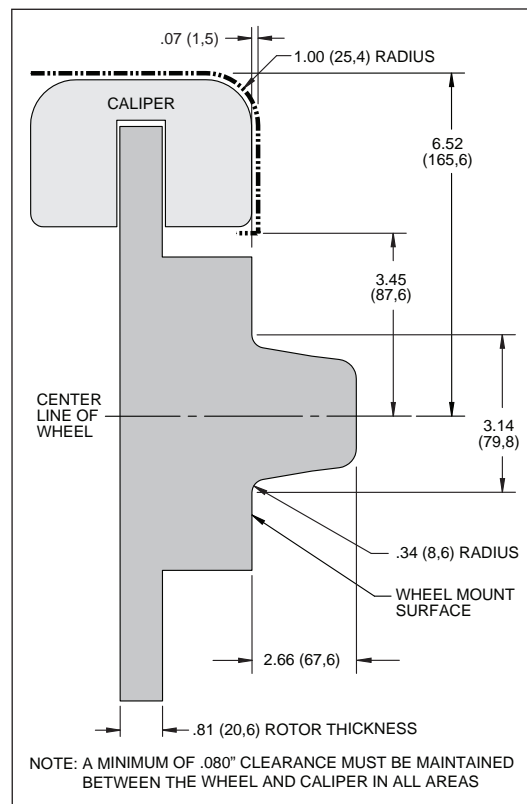

Figure 2. Wheel Clearance Diagram
- Verify your wheel clearance using Figure 2.
- WARNING:** The wheel contact surfaces must seat completely on the face of the hub. If any contact surfaces overhang the outside diameter of the hub face, a 6.60" diameter x .20" thick steel spacer (item 23, Wilwood P/N 300-11961) MUST be used between the wheel and the hub.